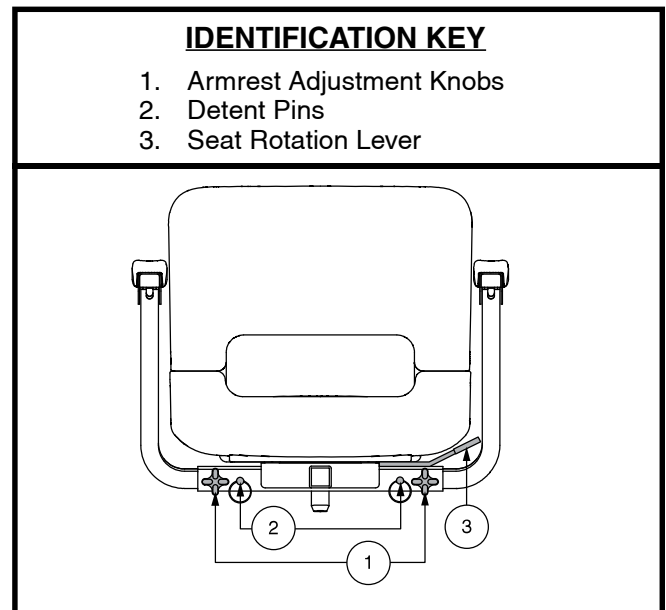

Figure 12. Seat Adjustments
1. Loosen the armrest adjustment knobs. See figure 12.